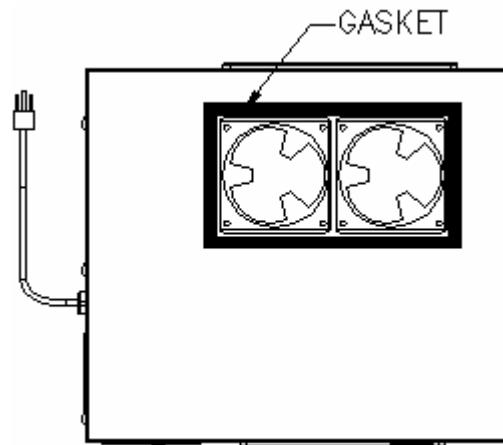

Fig. 2.3 TOP EXHAUST GASKET
- If top exhaust, place the gaskets along the top openings at the top of the cooling unit. (See Fig. 2.3)
- Locate the 2 brackets (6) and use 7/16" wrench to tighten the 2 screws (7).
- Screw the 2 screws (4) and locate the light on the ceiling.